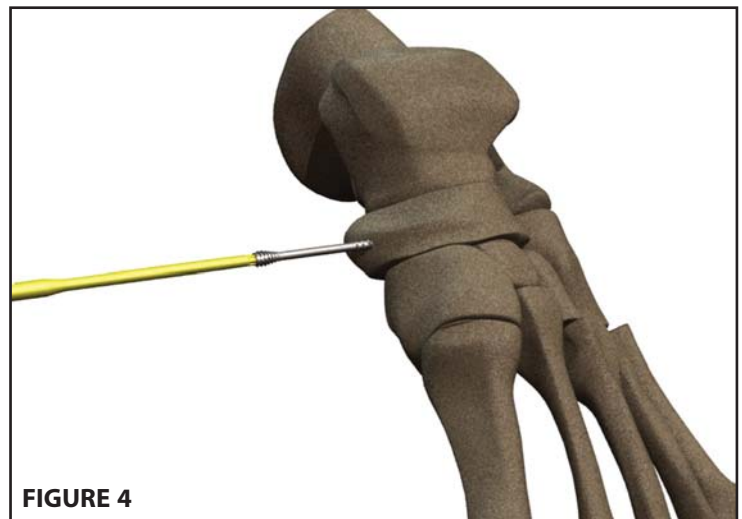

FIGURE 4
- 5 Place the **AutoFIX™** screw over central guide wire and advance the implant in a clockwise manner. Although these implants are self-drilling, some downward pressure at the initial insertion is required. Once the trailing threads contact the near cortex each full revolution of the screwdriver handle compress a 3.0mm implant .6mm and a 4.0mm implant .8mm. Use X-ray guidance to prevent over insertion of implant. **FIGURE 4**